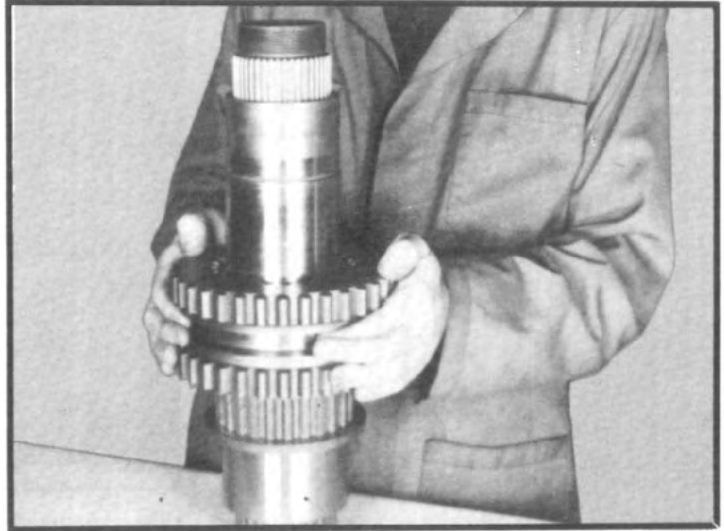

Fig. 58
- 2.24 If necessary to remove the needle bearing inner races and thrust rings from the shaft, place the shaft vertically on a table and tap the clutch gear on the thrust washer. This procedure will push the inner race off the shaft. Repeat this operation for the opposite side. (See fig. 58.)